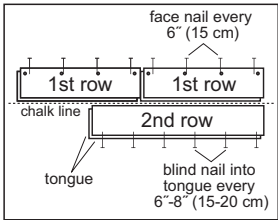

Figure 9
- Use a pneumatic finish nailer to face-nail the groove side 1/2" (13 mm) from the edge at 6" (15 cm) intervals and 1"-3" (2.5-7.6 cm) from each end. Then, blind nail using a finishing gun held at a 45° angle. Nail down through the nailing "pocket" on top of the tongue every 6"-8" (15-20 cm) (Figure 9).
- If using finish nails, pre-drill the nail holes with a 1/32" (1.7 mm) bit approximately 1/2" (12.7 mm) from back (groove) edge, 1"-3" (2.5-7.6 cm) from each end, and at 6" (15 cm) intervals. Pre-drill at the same intervals at a 45° angle down through the nailing "pocket" on top of the tongue (Figure 9). Face-nail the groove side where pre-drilled. When complete, blind-nail at a 45° angle through the tongue of the first row. Fasten using 6 or 8d finish nails. Countersink nails to ensure flush engagement of the groove. Avoid bruising the hardwood by using a nail set to countersink the nails.